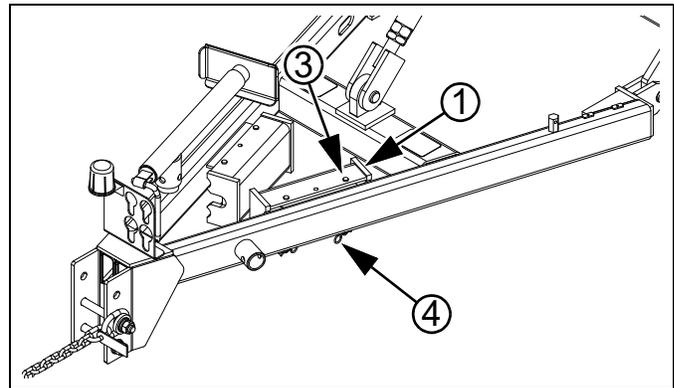
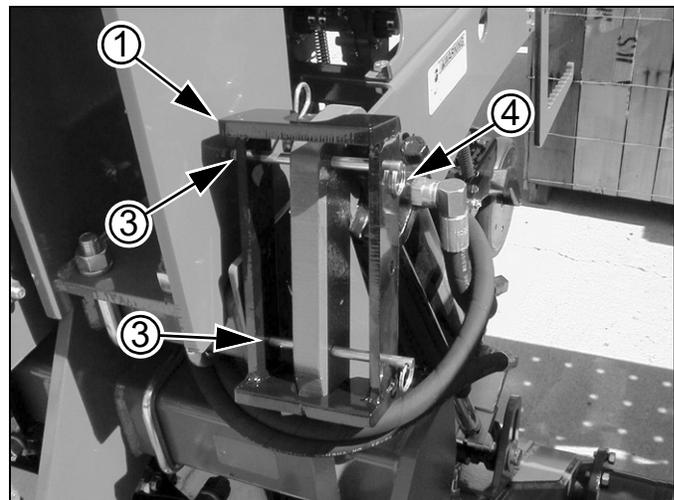
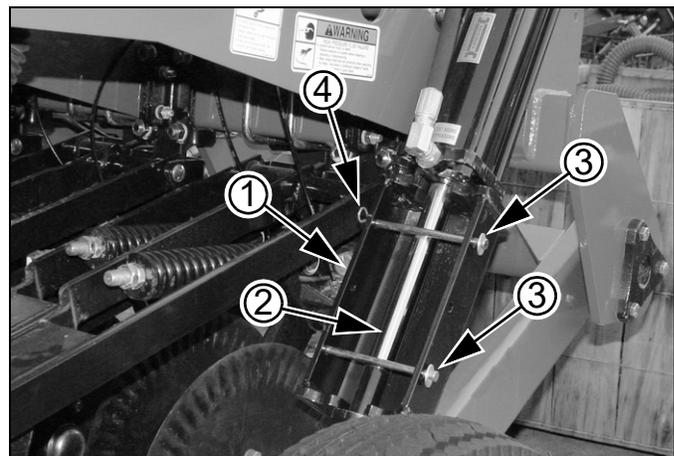

Figure 14: 2012+
Figure 15: 2011-
Figure 16
Refer to Figure 14 or Figure 15, and Figure 16
*Refer to Figure 16 page 20 and Figure 15 on page 20*